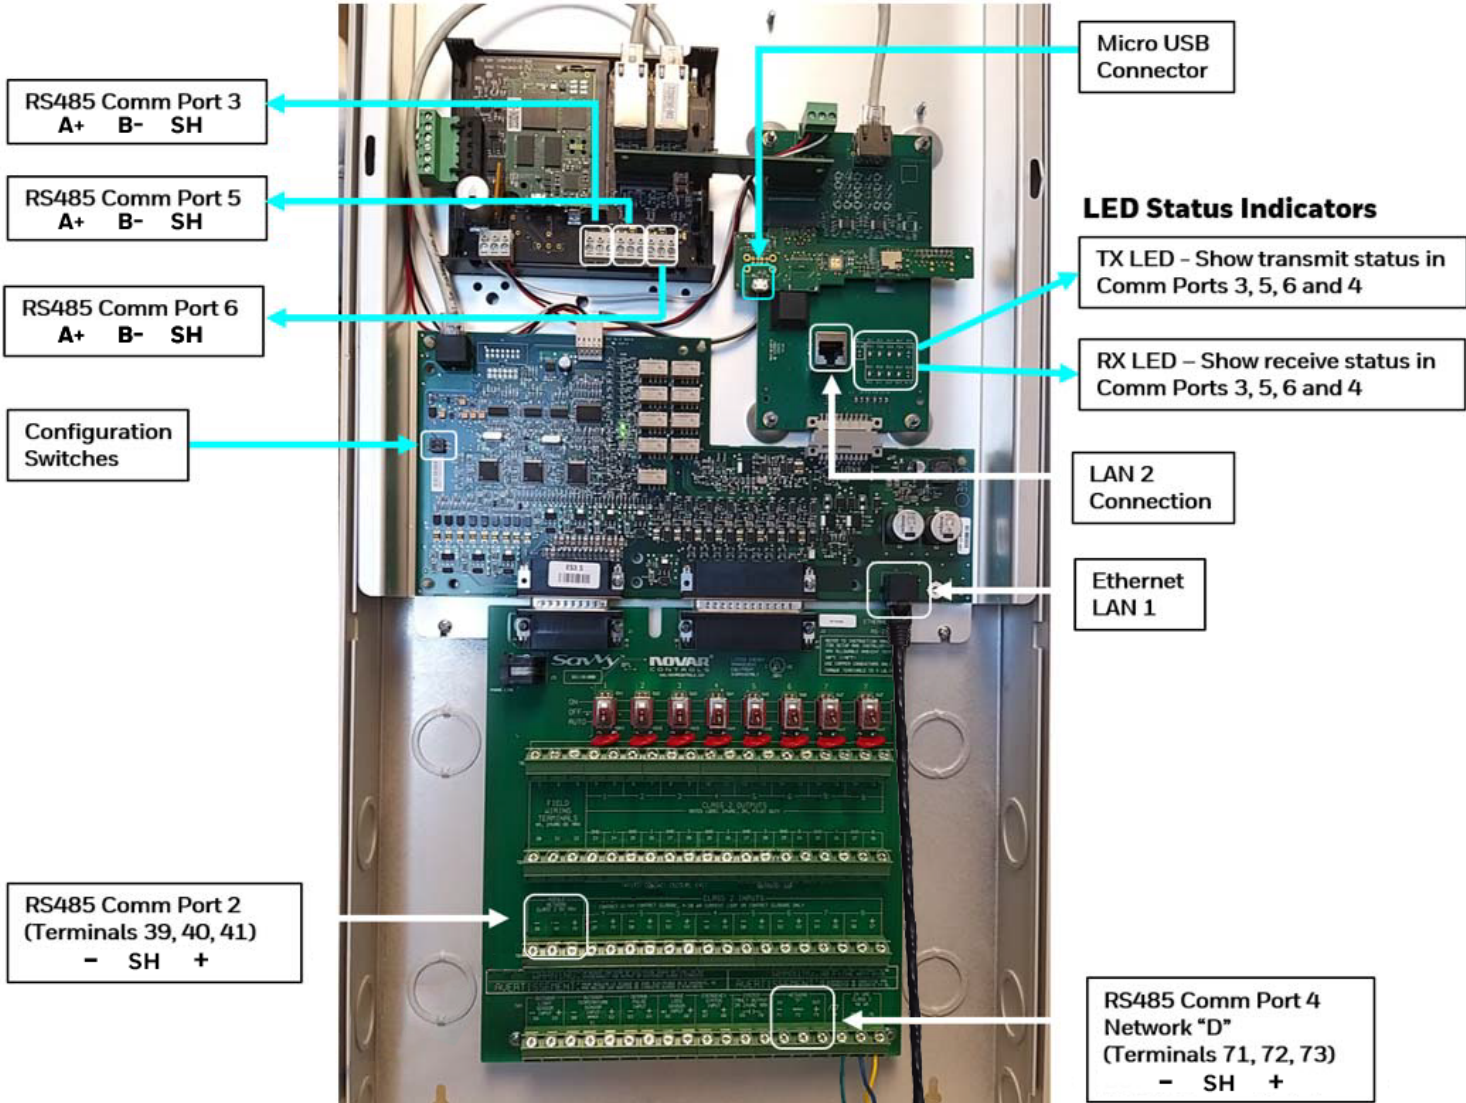

Fig. 6. Assembly Board Detail.
6. If the expansion interface is used, secure wiring using the Wire Clamp provided on the left side of the Novar ES3.S (See Fig. 6).
Refer to Fig. 6 for LED and configuration switch locations.
This section describes the functional purpose of the LED Indicators in three categories, See Fig. 6 for locations.